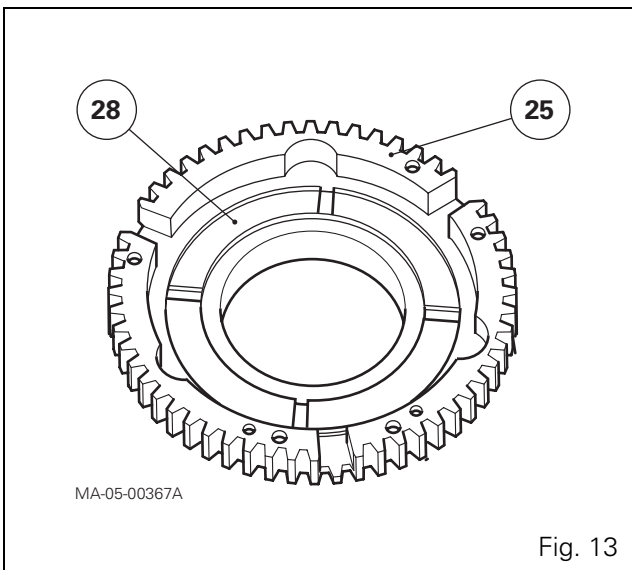

Fig. 13
- 27.** Remove the piston (28) by lightly tapping the cover plate (25) on a wooden block or using a jet of compressed air (Fig. 13).
- 28.** Remove the seals (26) and (29) and discard them.